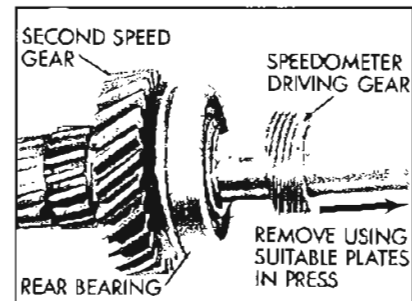

Figure 4-19—Removing Speedometer Driving Gear
1. Remove speedometer drive gear with Tool J- See Figure 4-19.